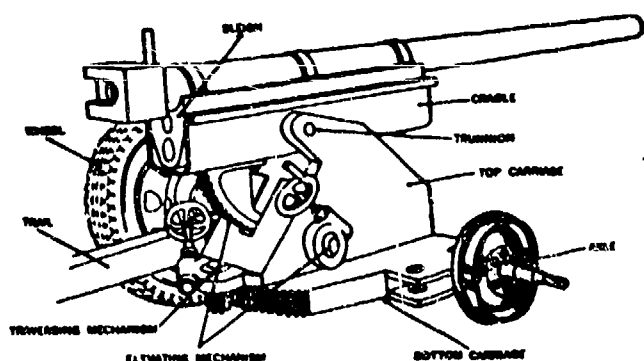
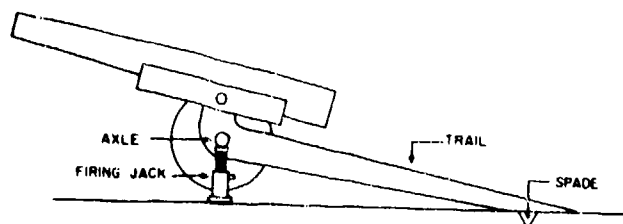
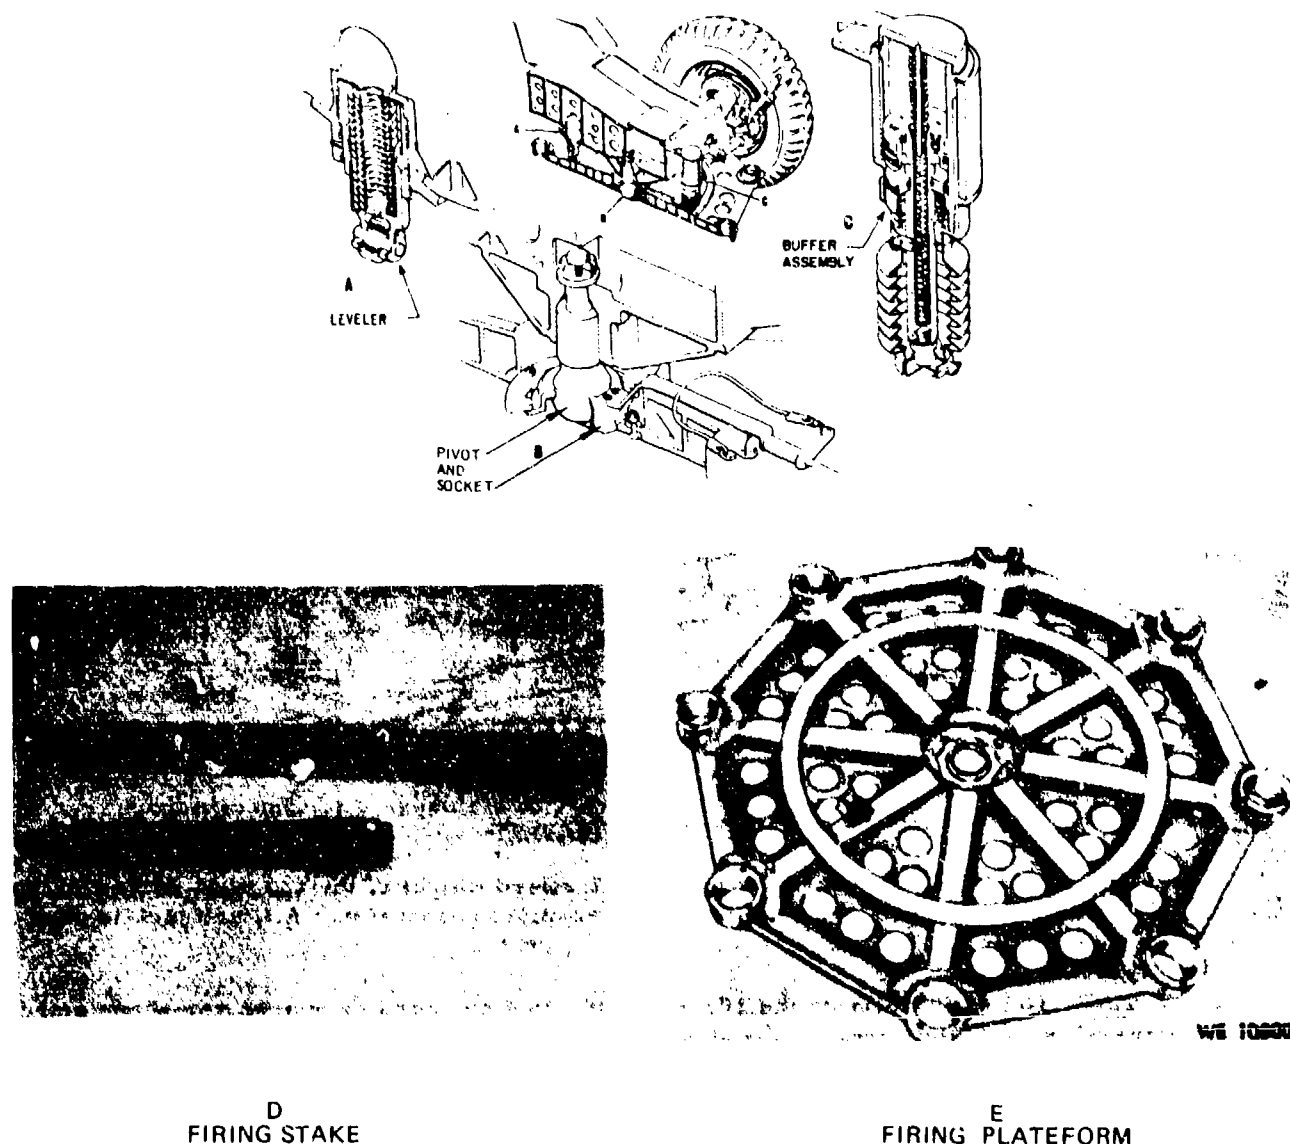

Figure 2-1. Components of the carriage.
Figure 2-3. Firing jack.
Figure 2-4. The M102 howitzer leveler, pivot, buffer assembly, firing platform, and firing stakes.
The carriage consists of some combination of the following major components (figs 2-1 through 2-15): bottom carriage, equalizer, top carriage, cradle, sleigh, equilibrator, elevating mechanism, traversing mechanism, axle, trails, and wheels. Some towed artillery weapons are equipped with shields to protect the crew from enemy small-arms fire. On some self-propelled weapons, a similar protection is provided by an enclosed turret.
**a. Bottom carriage.** The bottom, or lower, carriage (figs 2-1 and 2-2) is that part of the weapon that supports the top carriage. Portions of the mechanism for rotating the top carriage in traverse are attached to the bottom carriage. The pintle—a vertical pin about which the top carriage rotates—secures the top carriage to the bottom carriage. The trail end (or ends) may be attached to the bottom carriages, and, on some weapons, a firing jack or spade (fig 2-3) may also be attached. The bottom carriage may be fixed to the axle, or it may replace the axle and carry the wheels. The construction of the towed howitzer M102 differs considerably from that of earlier models in that it has no bottom carriage. When the weapon is in the firing position, the entire weapon and carriage rest on a platform and pivot in traverse about a pivot and socket joint located in the center of the firing platform (fig 2-4).
**b. Axle.** The axle is that part of the carriage that supports the weight of the weapon. Spindles on the ends of the axle provide a means for mounting the wheels. The size and shape of the bottom carriage may eliminate the need for a standard axle, in which case, spindles for mounting the wheels are mounted on either side of the carriage (fig 2-3).
*e. Trails.* The split trails on the 105-mm and 155-mm towed carriages serve two principal purposes—they transmit most of the shock of firing through the trail spades to the ground, and they provide a means for coupling the weapon to its prime mover. Brackets mounted on the trails are attached to the bottom (or lower) carriage and are divided into two sections. For firing, they are spread to form an angle of approximately 800 mils, or 45°. The lightweight 105-mm howitzer M102 uses a modified box trail made in a single section. Most of the shock of firing is transmitted through the firing platform to the ground. The M102 does not have spades—displacement is prevented by eight metal stakes driven through holes located at each point of the octagon-shaped firing platform (fig 2-4).
(3) *Pivot and socket.* The carriage of the 105-mm howitzer M102 is supported on a firing platform by a pivot and socket and four stabilizing devices, which ride on the firing platform stiffening ring, permitting a full 6,400-mil traverse (fig 2-4). A roller tire, which is operated by a handwheel on the left side of the trail, is located at the rear of the trail and facilitates fine traversing of the weapon. For large changes in direction, the weapon can be traversed about the pivot and socket joint located in the center of the aluminum platform. If necessary, one man can lift the lunette to traverse the weapon to the desired azimuth.